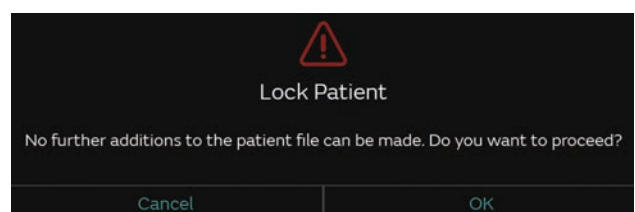

Figure 51. Lock Patient action cannot be undone
3. Answer the question in the prompt (Figure 51) to ensure that you want to lock patient file.